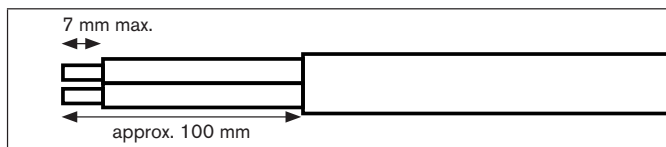

Fig. 1: Remove cable insulation
- Remove cable insulation to a length of approx. 100 mm (see "Fig. 1").
- Remove the insulation from the wire conductors to a max. length of 7 mm (1/4") (see "Fig. 1").